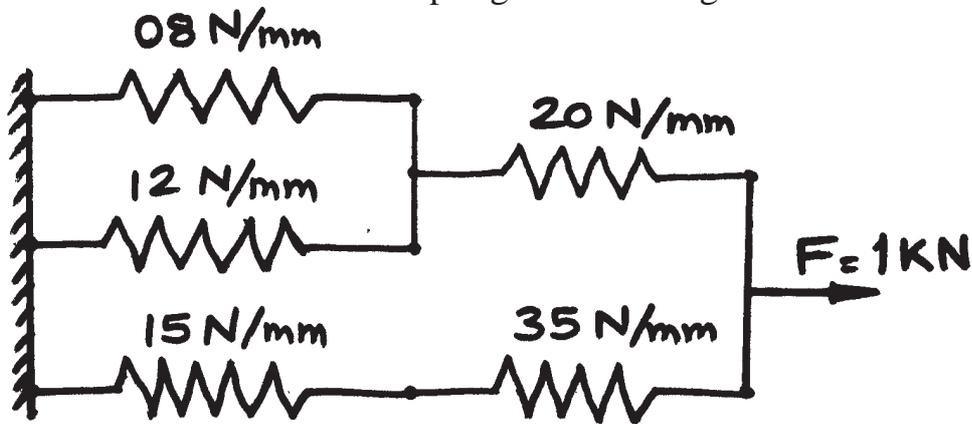

Figure 1, Q 5(a)
- Q4) A portal frame ABC shown in the figure 1 is subjected to uniformly distributed load of 20 kN/m over BC. Draw B.M. diagram. EI is uniform. Use flexibility method for analysis. AB = 4m, BC = 3m. [16]
- Q5) a) Find the deflection of each springs shown in figure 1. [6]